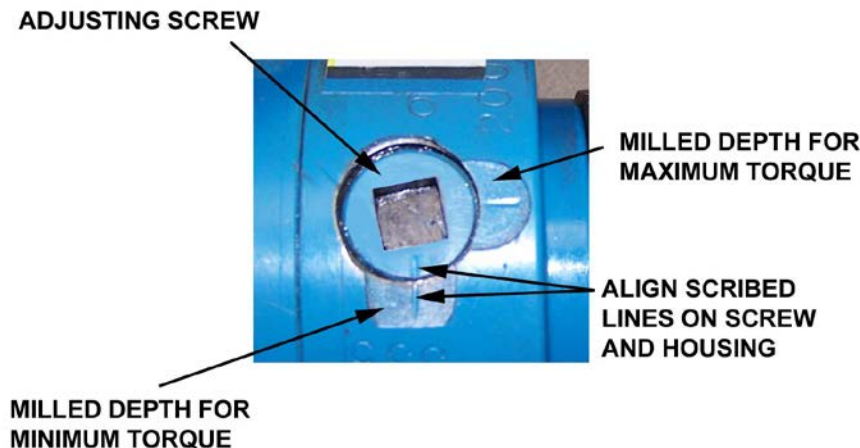

Figure 4-4 Setting Overload Release Torque
5. If required torque is less than the value specified in step 3, above, increase torque by turning adjustment screw (Figure 4-4) clockwise until flush with the next milled depth on the clutch housing and scribed lines are aligned; then re-check torque. Do not increase torque setting beyond 335 in lbs (37.9Nm) for a 52:1 gearbox or 200 in lbs (22.6Nm) for a 125:1 gearbox.